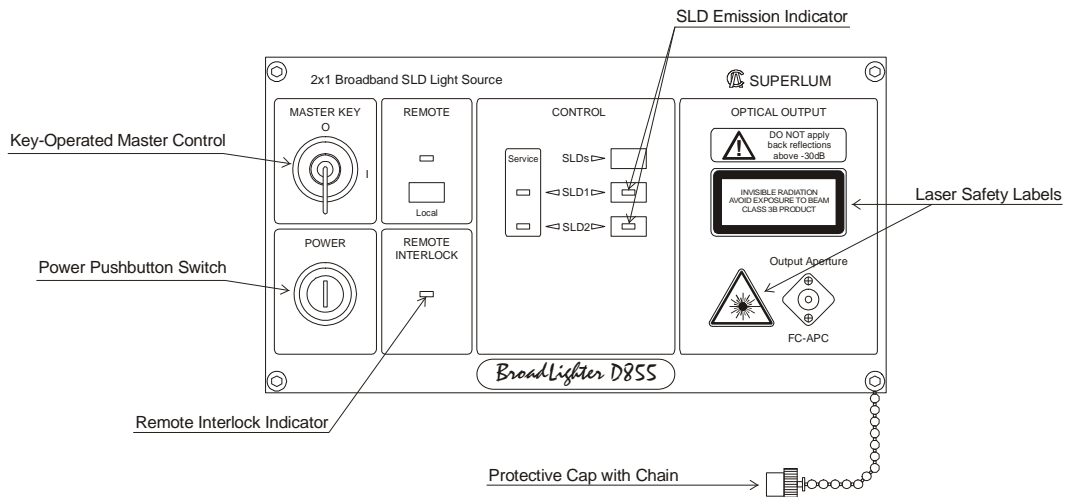

FIGURE 1.2. Front-Panel Laser Safety Features
- **Key-operated master control**—Located on the front panel of the instrument, this switch provides access to activation of the optical output (see Figure 1.2). The BroadLighter is inoperable when the key is